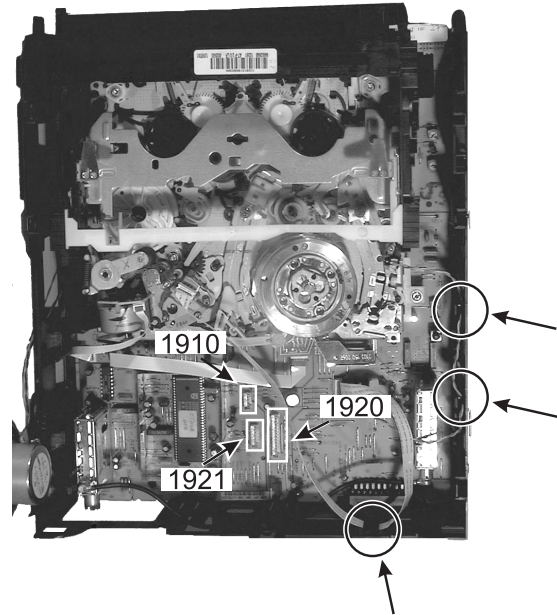

Figure 4-7
11. Remove cables running through the groove Motherboard such as the eraser head cable and cable A/C head to the motherboard from the guides (see figure 4-7).
12. Unplug plugs 1910, 1920 and 1921 (see figure 4-7).